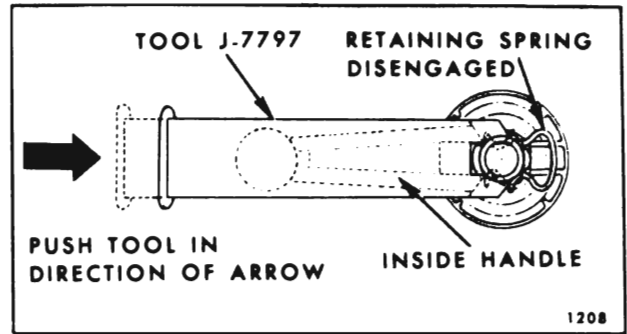

Fig. 14-8—Door Inside Handle Removal
1. Depress door trim assembly sufficiently to permit insertion of tool J-7797 between handle and bearing plate (Fig. 14-8).